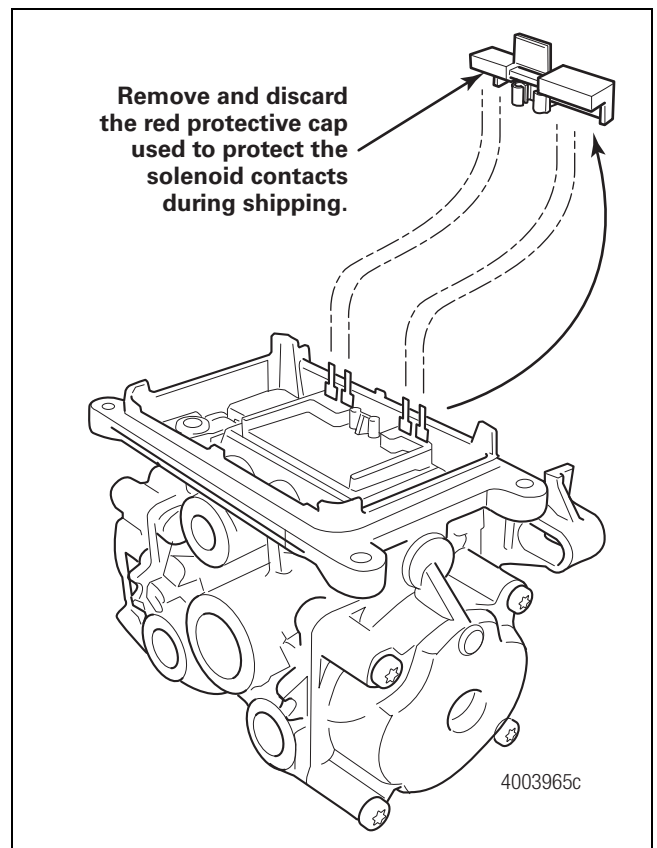

Figure 4
2. Remove the red protective cap used to protect the solenoid contacts during shipping. Figure 4.